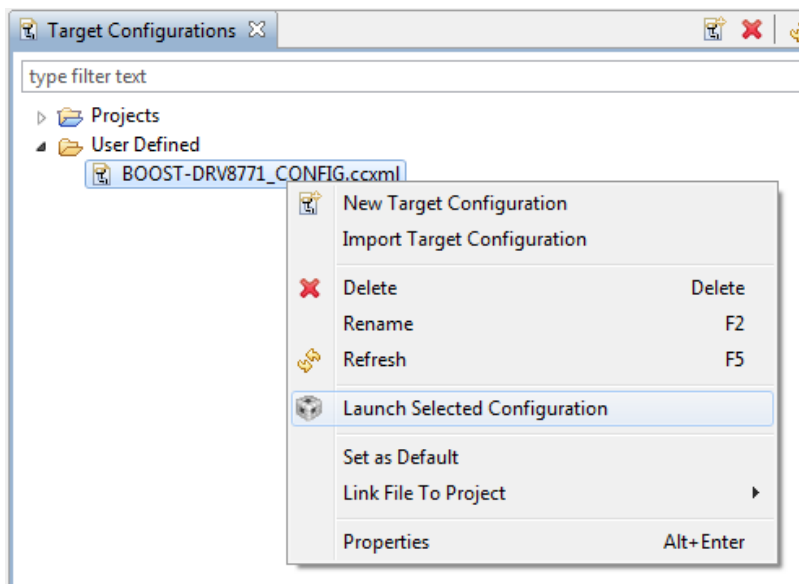

Figure 7. Launch Selected Configuration
- Right click your newly created Target Configuration file and select **Launch Selected Configuration** (Figure 7)